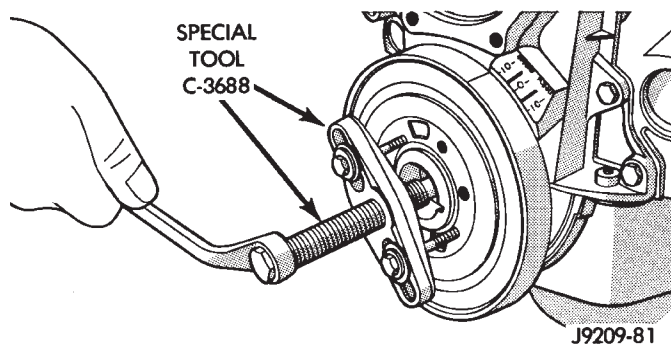

Fig. 20 Vibration Damper Assembly
- (1) Disconnect the negative cable from the battery.
- (2) Remove fan shroud retainer bolts and set shroud back over engine.
- (3) Remove the cooling system fan.
- (4) Remove the serpentine belt (refer to Group 7, Cooling System).
- (5) Remove the vibration damper pulley.
- (6) Remove vibration damper bolt and washer from end of crankshaft.
- (7) Install bar and screw from Puller Tool Set C-3688. Install 2 bolts with washers through the puller tool and into the vibration damper (Fig. 20).
- (8) Pull vibration damper off of the crankshaft.